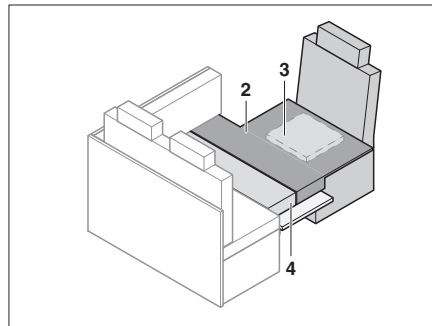

Fig. 183 After conversion
- Lay on the additional cushion as shown in Fig. 183.